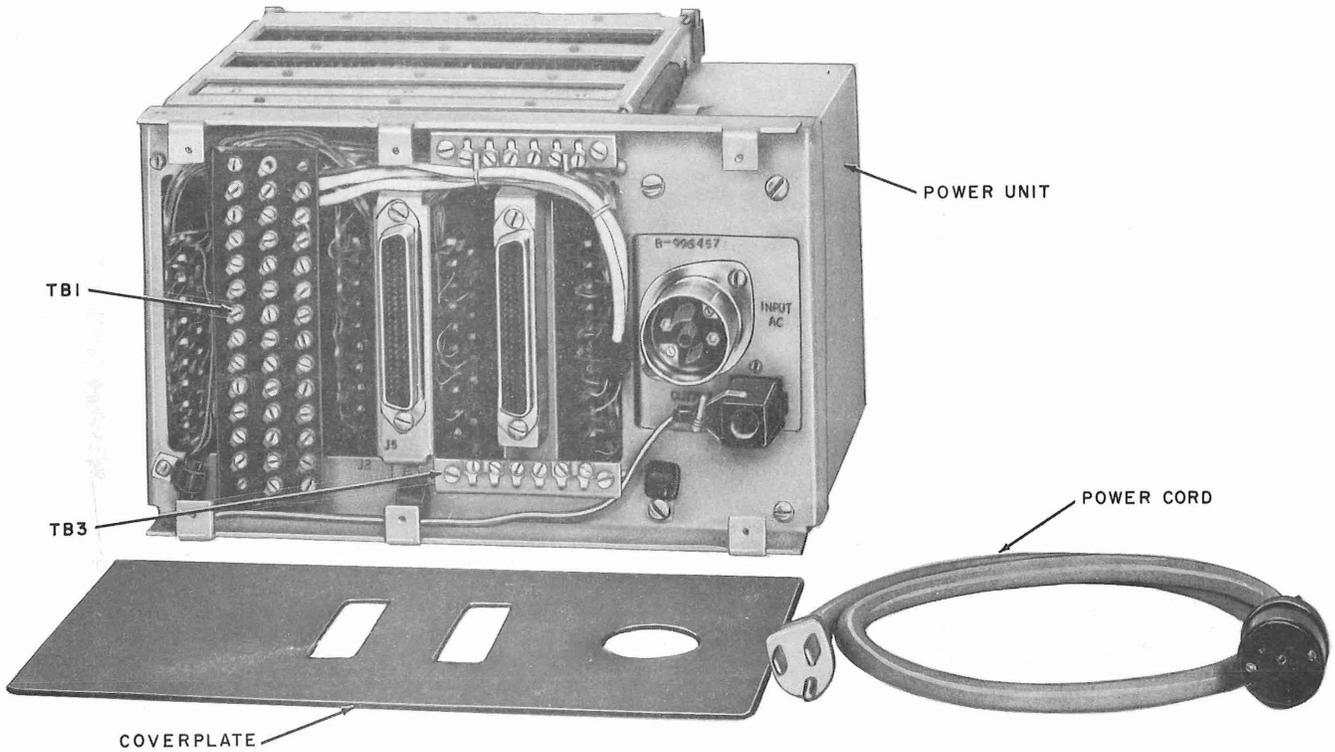

Fig. 5—Data Auxiliary Set 806B7—Rear View
2.09 Remove coverplate on back of DAS 806B7 (Fig. 5) and lay cover and screws aside. Remove 10A2 Data Unit to gain access to TB1 on data unit. Incorporate options by strapping as shown in Table G. Replace 10A2 Data Unit.